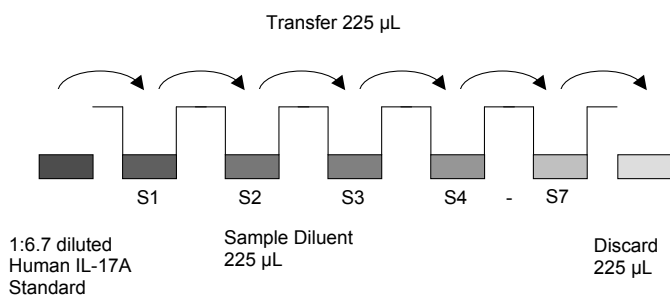

Fig. 8 Dilute standards - tubes.
- Repeat serial dilutions 5 more times thus creating the points of the standard curve (see Figure 8).